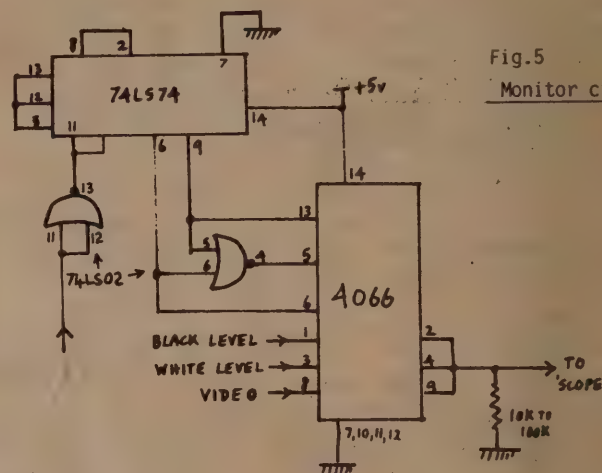

Fig.5
**QUALITY CONTROL-** When a fast-scan signal is digitised it is essential that some form of monitoring is used to check that all 16 grey levels are being used in the conversion. Fig. 5 shows a circuit which can easily be added to a converter which uses a chain of 711s. The output of this circuit is fed to an oscilloscope which has its timebase set to display 3 fast-scan frames. The fast-scan line sync clocks a divide-by-3 circuit which closes three electronic switches in rapid succession. Thus, on the screen of the CRO we see a sequence of 1 line of white level, 1 line of black level and 1 line of video, which is repeated across the screen. This gives the appearance of a steady line at the white level, a similar line at the black level, and the varying video signal in between. The white and black level controls are then adjusted so that the video waveform lies between them. If the white level is too low or the black level too high, then clipping will occur and this can be seen on the SSTV display as large areas of white, or black, with very little detail in them. Note that some digitisers use "contrast" and "brightness" controls rather than the white and black level controls referred to; the principle of setting the video between the two levels remains the same.